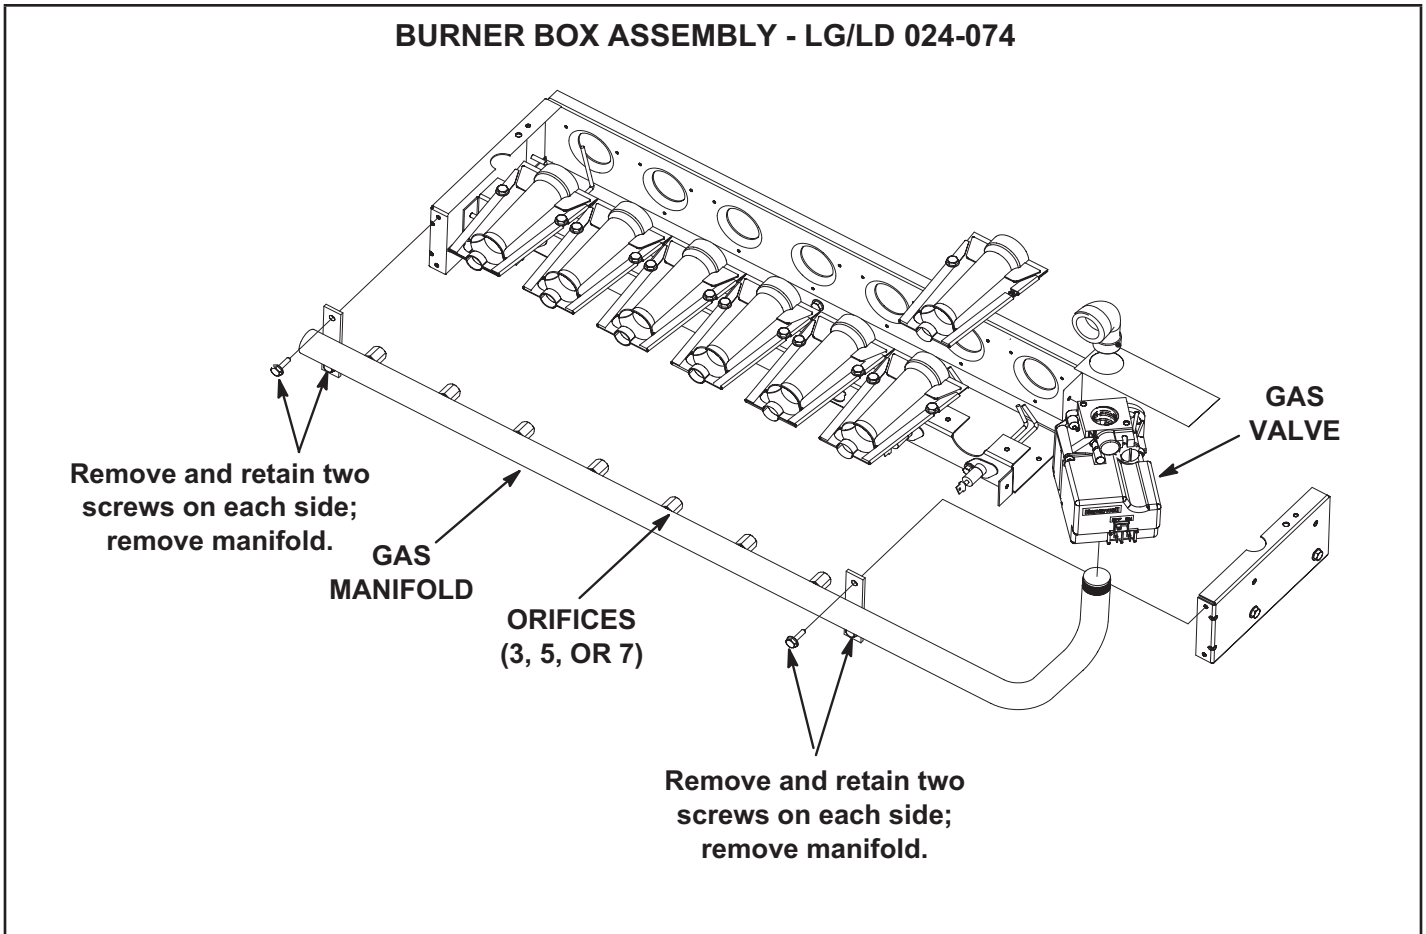

Figure 2
- 6 - Remove and retain four screws securing manifold to burner box; remove manifold. See Figure 2.